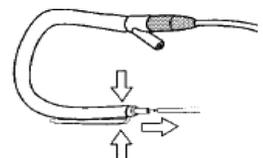

Fig. 4-6C
4. Grasp the snap end of the loop cover and remove the feeder tube. (See Figure 4-6C)